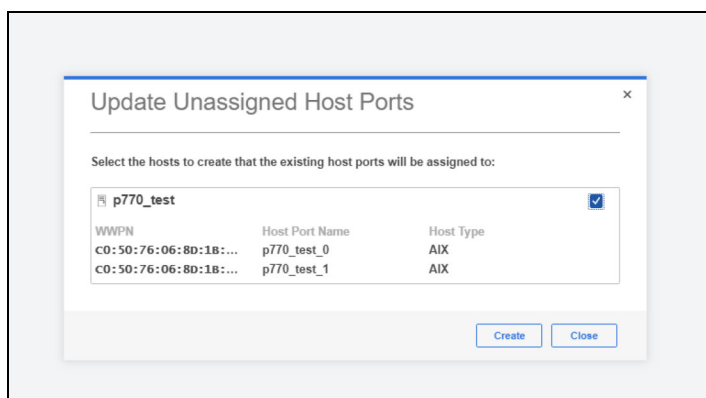

Figure 9-57 Update Unassigned Host Ports
4. Click **Automatically Create Hosts**. A list of detected hosts and unassigned host ports is displayed, as shown in Figure 9-57. Verify the list and click **Create** to complete the assignment task automatically.